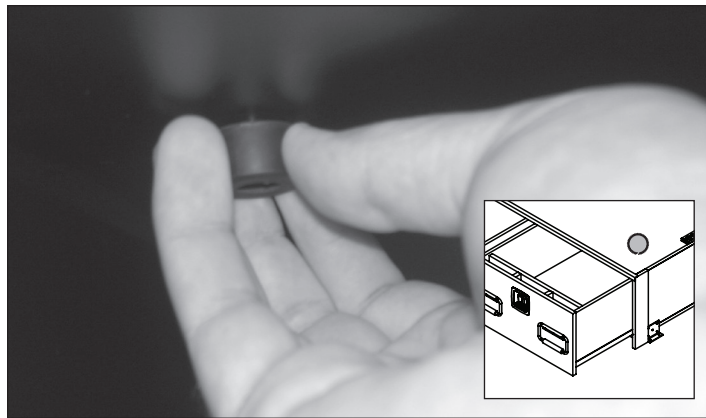
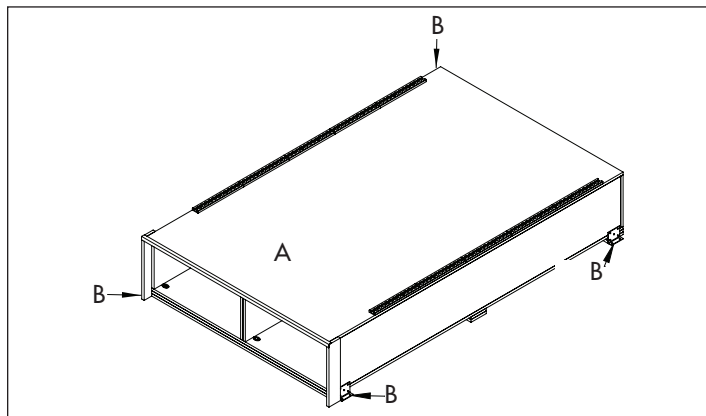

Figure 3 - Uninstall and reinstall rubber stoppers from the underside of the top of the box
Figure 4
2. Open the Bed Box drawers just far enough to reach in and unscrew the rubber stoppers from the underside of the top of the box (see Figure 3). Completely remove the drawers and set aside.
3. Slide drawer box (A) into the cargo area of the vehicle.
4. **OPTIONAL:** Locate the lock down holes (B) in the brackets on the bottom of box (A) (see Figure 4).
5. Reinstall drawers and rubber stoppers by reversing the procedure in Step 2 (see Figure 3).